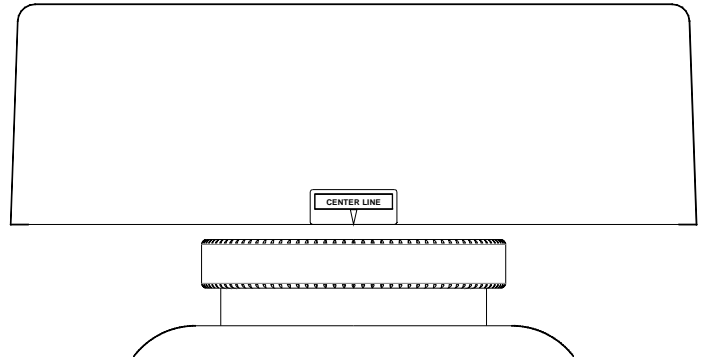

Figure 20
The standard Flat Sealing Head is typically used on larger containers between 53mm and 120mm. The sealing head must be centered over the cap with a 1/8" (3mm) air gap between the bottom of the sealing head and the top of the cap (**Figure 20**). The 1/8" (3mm) gap will allow the highest line speeds with the most consistent seal results.
2. Align and gap the product to the sealing head using the same criteria used for a Flat Sealing Head (**See Figure 20**) ensuring that it runs centered along the entire length of the sealing head.